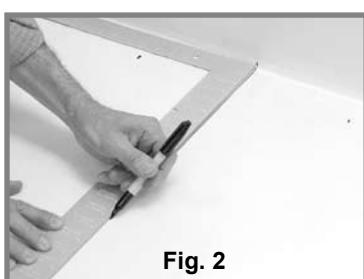
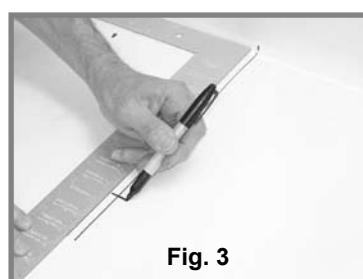

Fig. 2
Fig. 3
STEP 4: Place a carpenter's square against the back wall, and draw a center line on the floor at least 14 inches (356 mm) long (fig. 2). Mark the centerline for the floor flange at 11-1/4 inches (286 mm) from the wall (fig. 3).